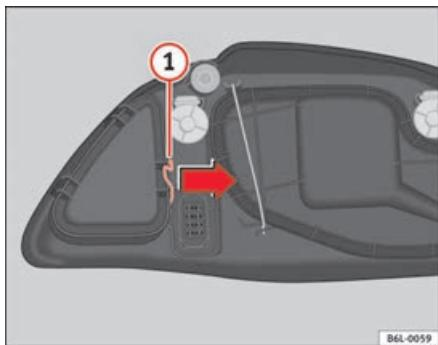

Fig. 157 Indicator lights
- Remove the loops ① ⇒ fig. 157 in the direction of the arrow and remove the cover.